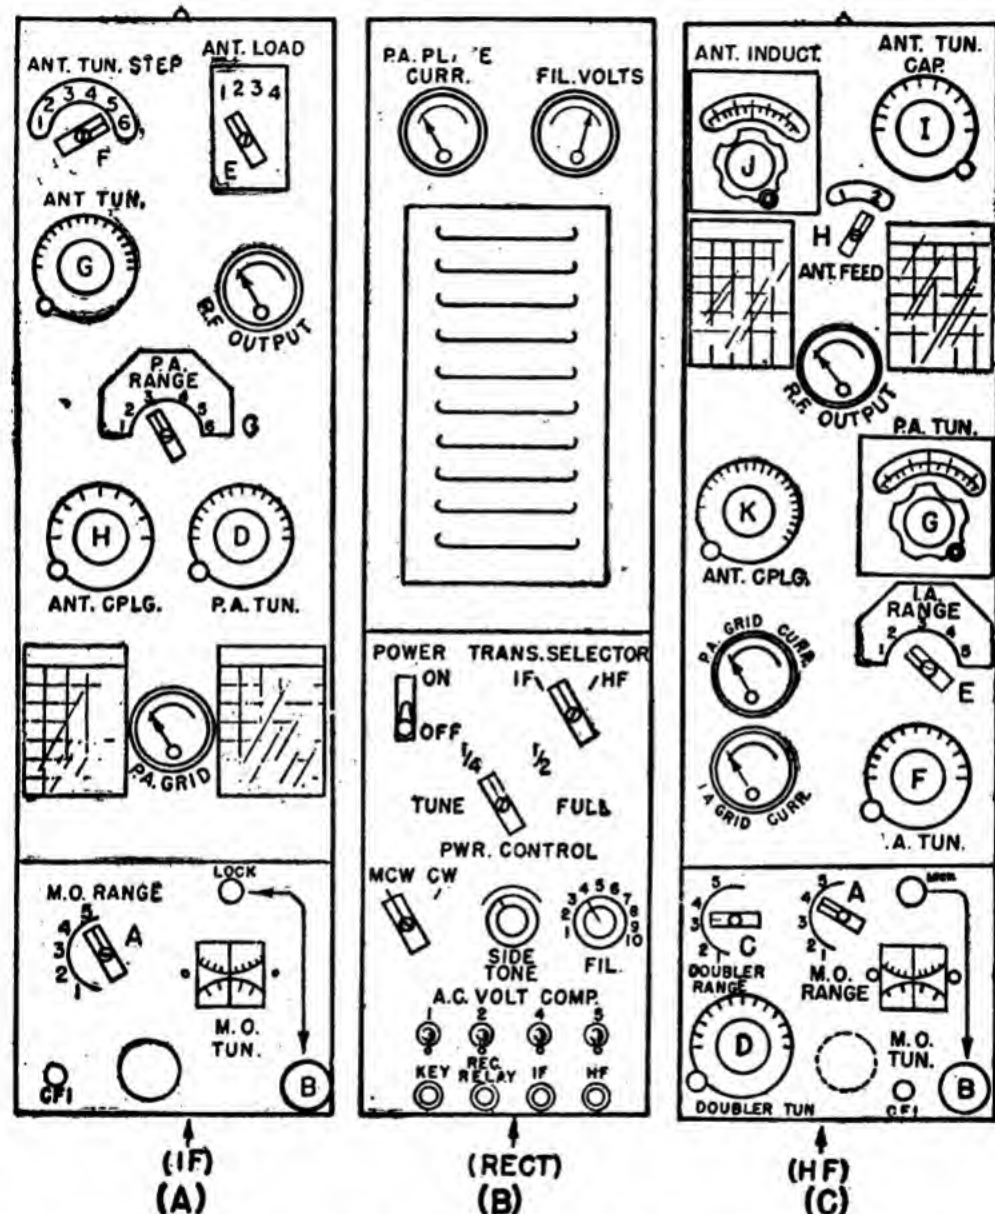

Figure 71.—Full panel view GO-9 transmitter.
Figure 71 gives you a full panel view of the GO-9 transmitter, showing you the three units of the type discussed. Examine the figure. The I. F. section (A) is familiar to you, but the H. F. section (C) has a somewhat different line-up of circuits.
Now take a good look at the POWER SECTION of your GO-9 (fig. 71 B). Upper left, you find the ON and OFF SWITCH by means of which you control the filament voltage of both sections of the GO-9, and start the action of the rectifier section.